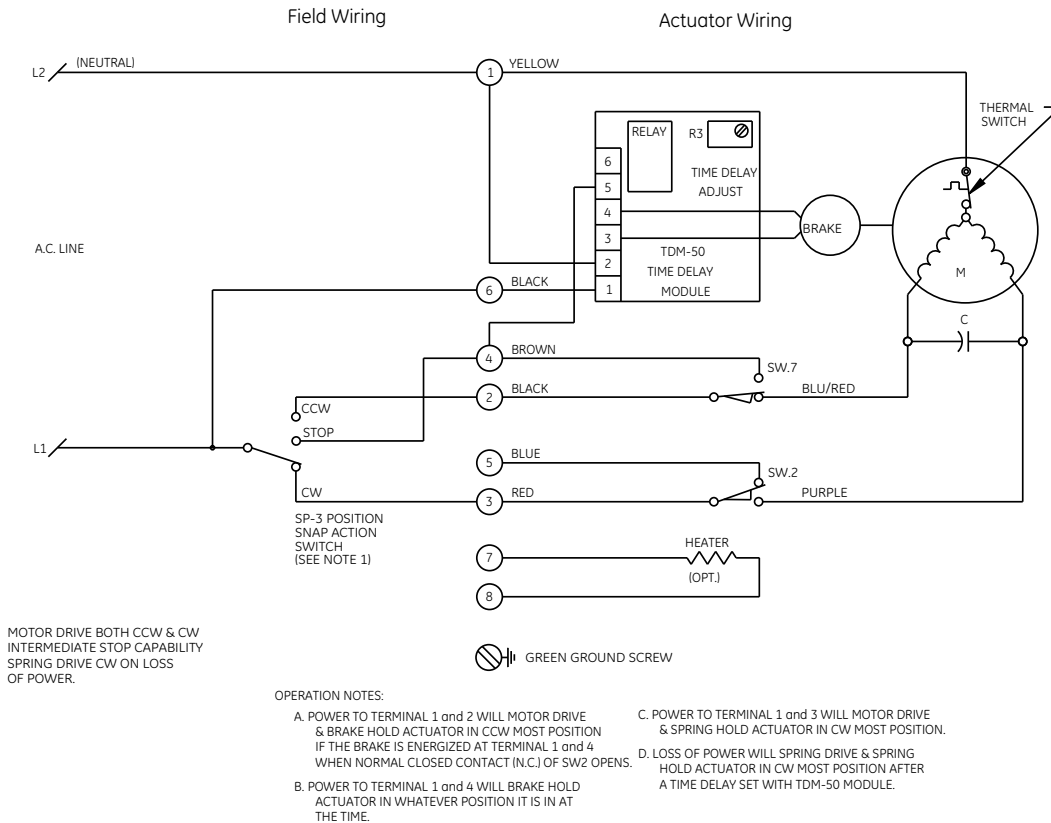

Figure 3
3. Strip the wires from the brake coil and connect to the TDM50 terminal strip as shown in Figure 3 on back page, wiring diagram 101-1014.